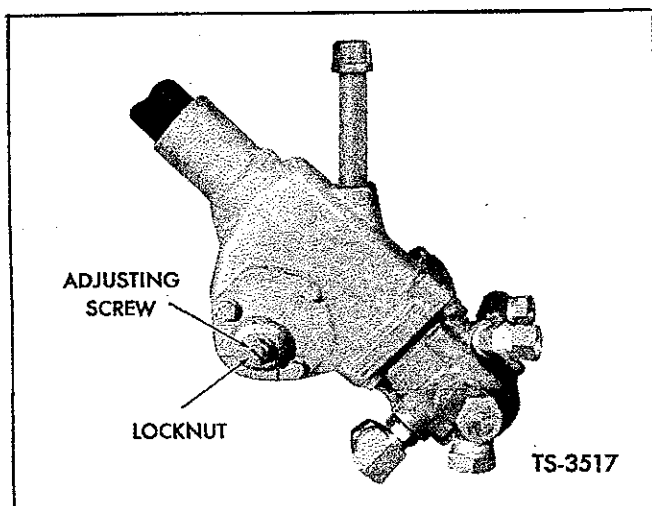

Fig. 49. Adjust Steering Gear
4. Loosen locknut and turn adjusting screw clockwise to increase pull at wheel, counter-clockwise to decrease the pull. See Figure 49. Reset locknut and recheck pull, as it must be within the specified limits after the locknut is tightened.